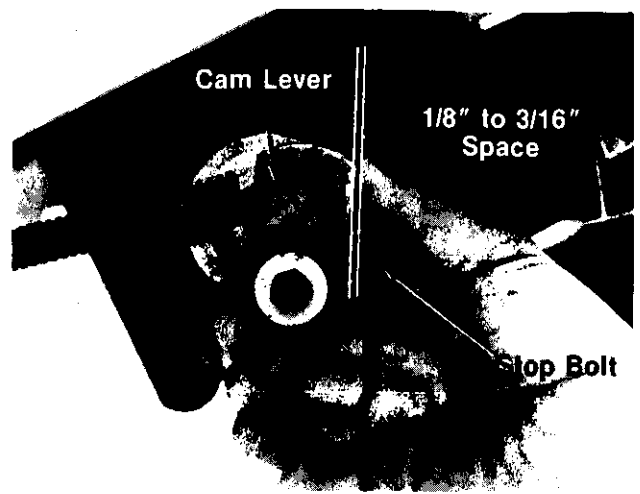

FIGURE 13.
2. Loosen the inside nut until the cam lever can be pushed forward so that there is a 1/8" to 3/16" space between the cam lever and stop bolt. See figure 13.